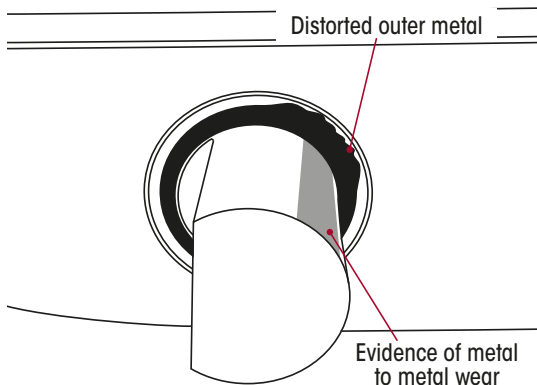

Figure 18: Unacceptable D-Pin
- Metal to metal contact wear marks on the D-pin outer metal are evident. Refer Figure 18.
- D-pin outer metal is distorted. Refer Figure 18.